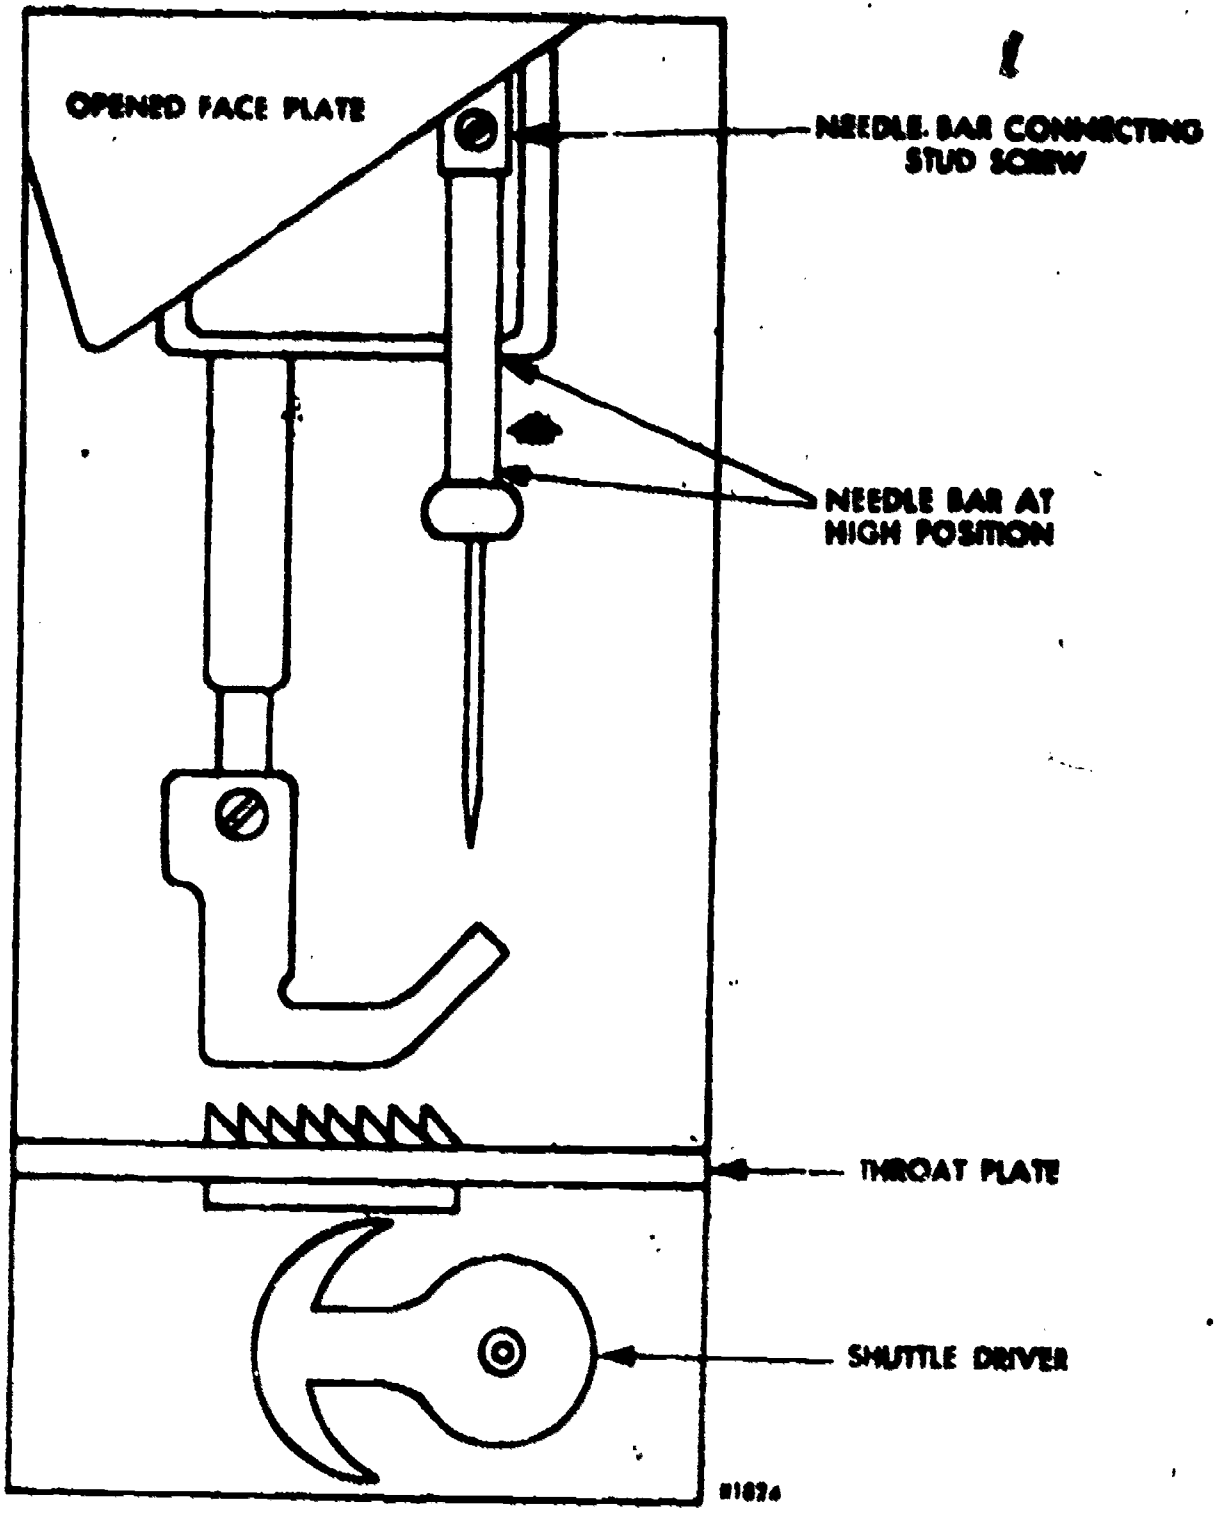

Figure 29. Correct Position of Shuttle Driver and Needle Bar to Remove or Replace the Shuttle Race Assembly.
1. To remove the shuttle race turn the balance wheel until the needle bar travels as far upward as possible. The shuttle driver should be in the position indicated in figure 29.